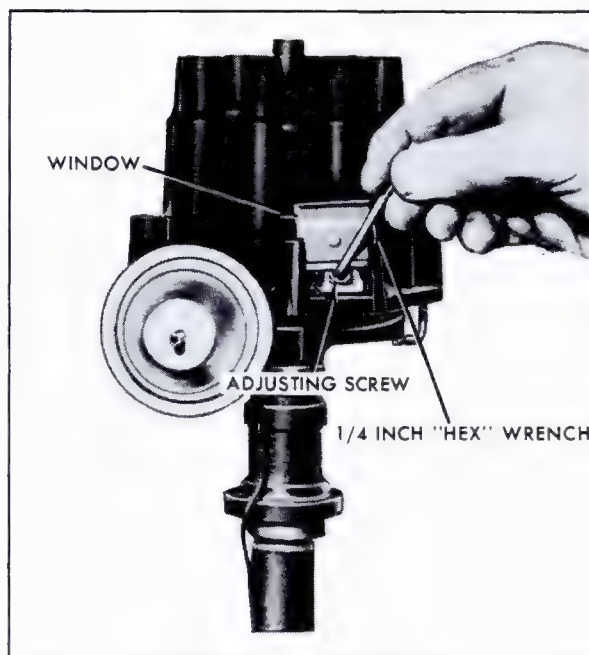

Fig. 6-53 Adjusting Distributor Points
of 1/8" Allen wrench into head of adjusting screw, Fig. 6-53.
1. Lift adjustment window and insert short end of 1/8" Allen wrench into head of adjusting screw, Fig. 6-53.